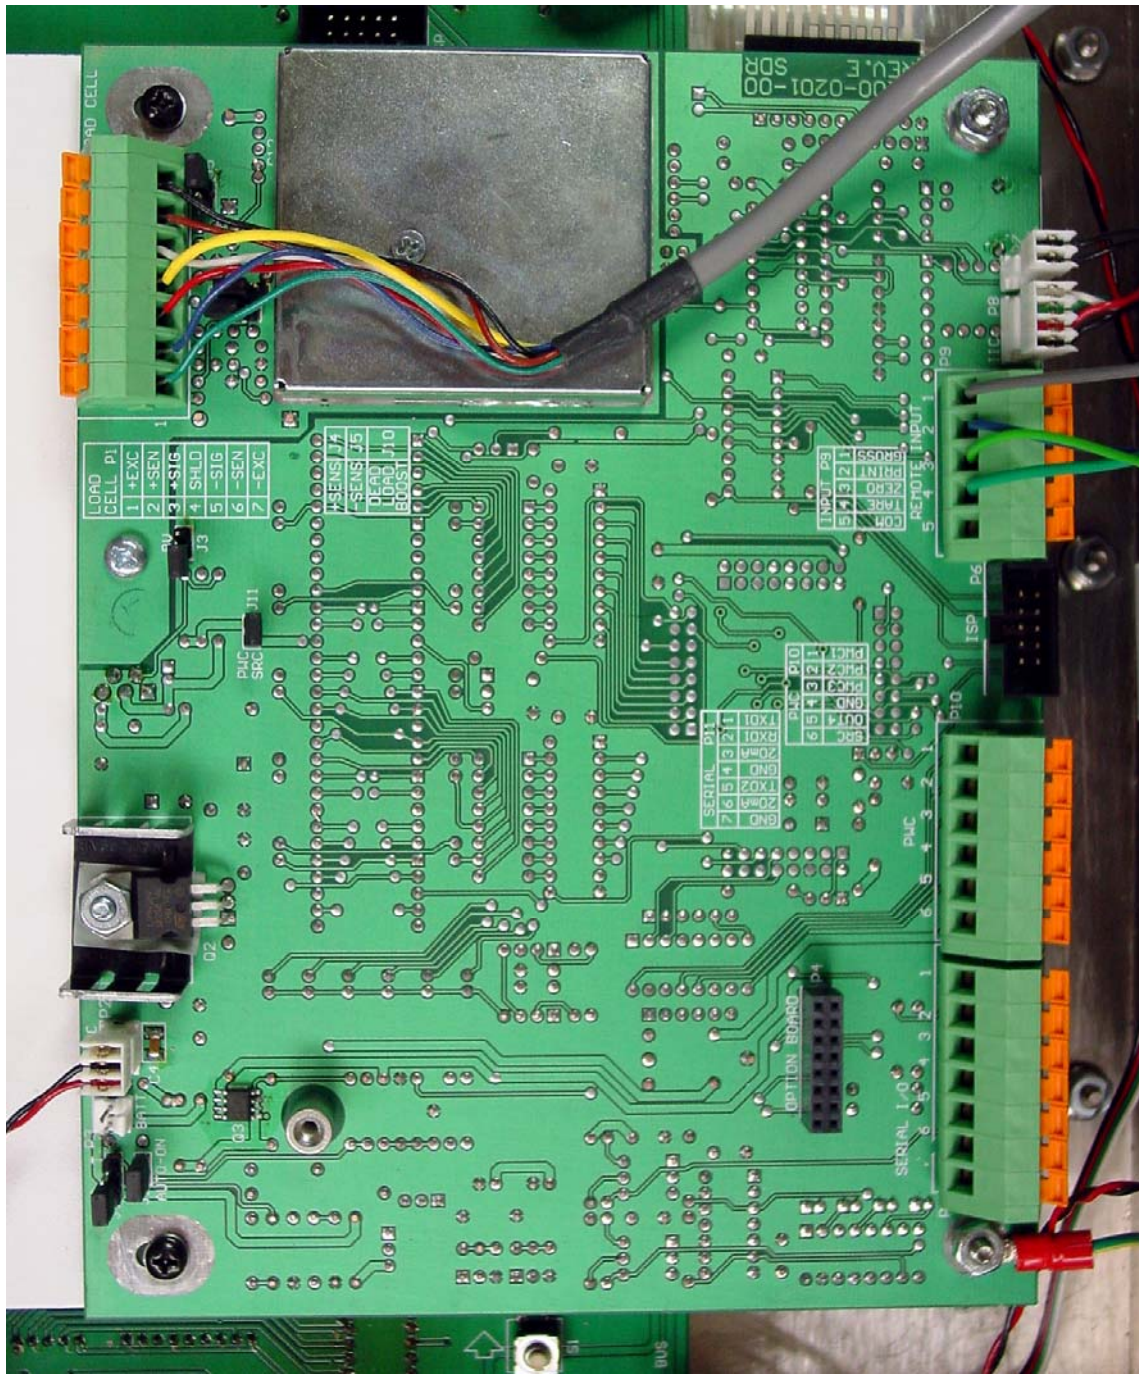

Figure No. 9
7. Referring to the table below (or on the circuit board) for terminal connections, connect each of the wires to terminal block P1. Refer to Figure No. 9 for terminal block location.
- Referring to the table on the previous page (or on the circuit board) for terminal connections, connect each of the wires to terminal block P7. Refer to Figure No. 9 for terminal block location.
6. Connect each of the wires to the Serial I/O terminal block (P11) referring to Figure No. 9 for terminal block locations.
Included with the I/O are 4 programmable inputs that may be used to remotely (up to 100 feet) initiate various functions within the indicator. These inputs are accessed via a terminal block (P9) on the back of the PC board (see Figure No. 9). The 4 inputs are defined as follows: